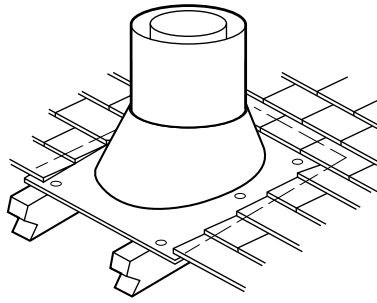

Figure 29
**Step 7.** Secure flashing by nailing along the perimeter into roof using 8d nails. If shingled roof, slide upper end and sides of roof flashing under shingles (trim if necessary), seal the top and both sides of the flashing to the roof with roof caulking. Cover nail heads with roof caulking (Figure 29).